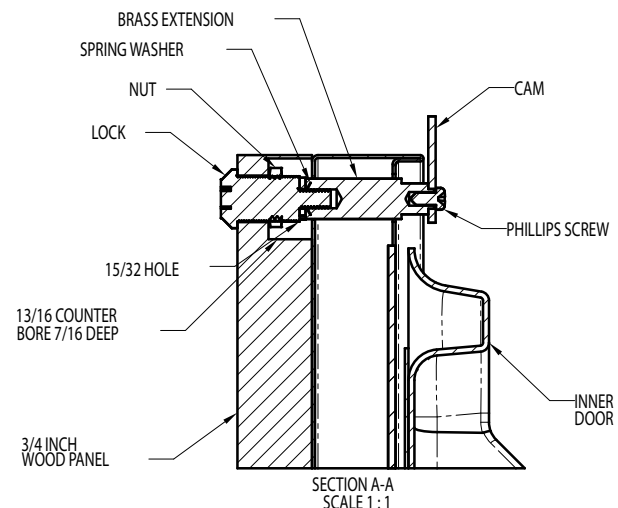

Figure 7
Locate and mark with a pencil the location of the lock hole on the overlay panel, this is the hole in the top corner of the handle side of the door. Remove the clamp and remove the overlay panel from the door. On the backside of the panel where you marked the lock location drill a 13/16\" (20.5mm) diameter counter bore 7/16\" (11.0mm) deep into the overlay panel. Drill a 15/32\" (12.0mm) diameter hole through the overlay panel centered on the counterbore being careful not to splinter the wood on the face side of the panel. (See Figure 7).
Two (2) lock extensions are supplied with the lock. Use the longer extension for a 3/4\" thick overlay panel and the shorter one for a 5/8\" thick panel. Assemble the lock extension, cam stop washer, spring washer, and set screw to the lock as shown in Figure 7 and 8.